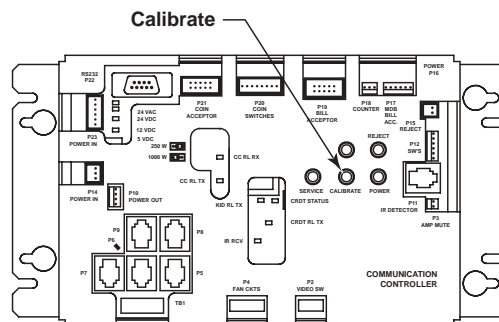
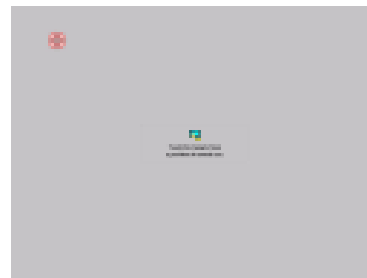

FIGURE 3-4 - COMMUNICATION
FIGURE 3-5 - CALIBRATION
1. Press the "Calibrate" button on the Communication Controller (see Figure 3-4). Press the button in once to launch the calibration program. This will override the application while the program runs. See Figure 3-5 for a picture of the calibration program interface.